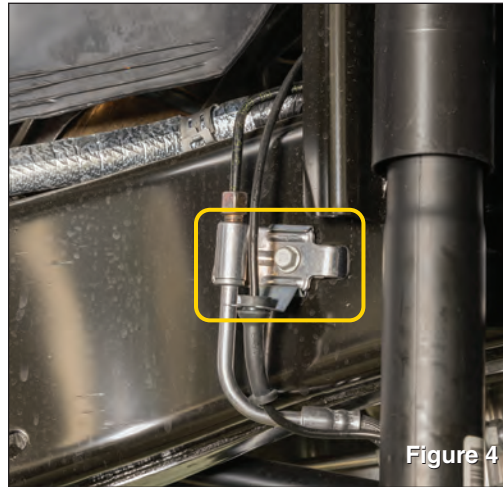

Figure 4
*Disconnect brake line bracket from frame using a 10mm socket. (see FIG 4)*